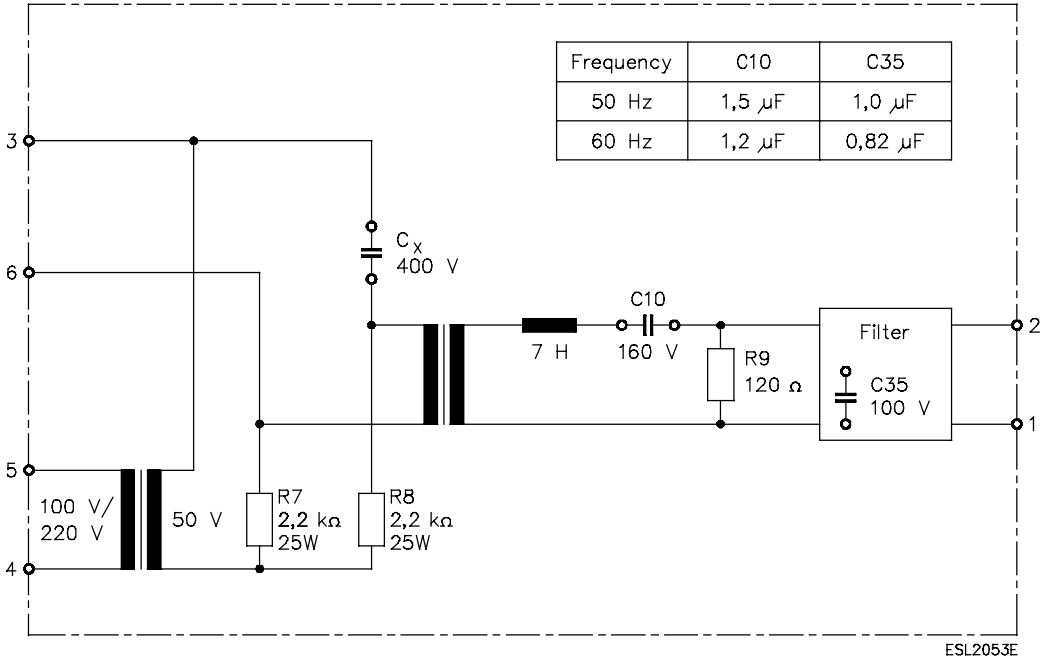

Fig. 4.10 Internal operation and terminals of the YWX111-11/-21
- Fig. 4.10 Internal operation and terminals of the YWX111-11/-21